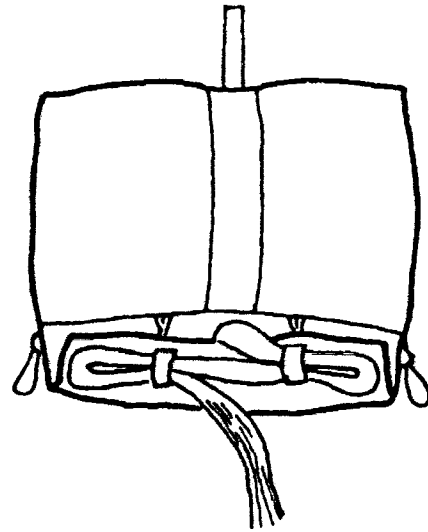

FIG. 9
8) At the front of the mouth of the bag are two loops on which rubber bands should be installed. These are the "Locking Stows". Push each rubber band thru its respective grommet in the bag's closing flap, and close the bag by making a stow in each elastic with the suspension lines as shown in FIG. 9.